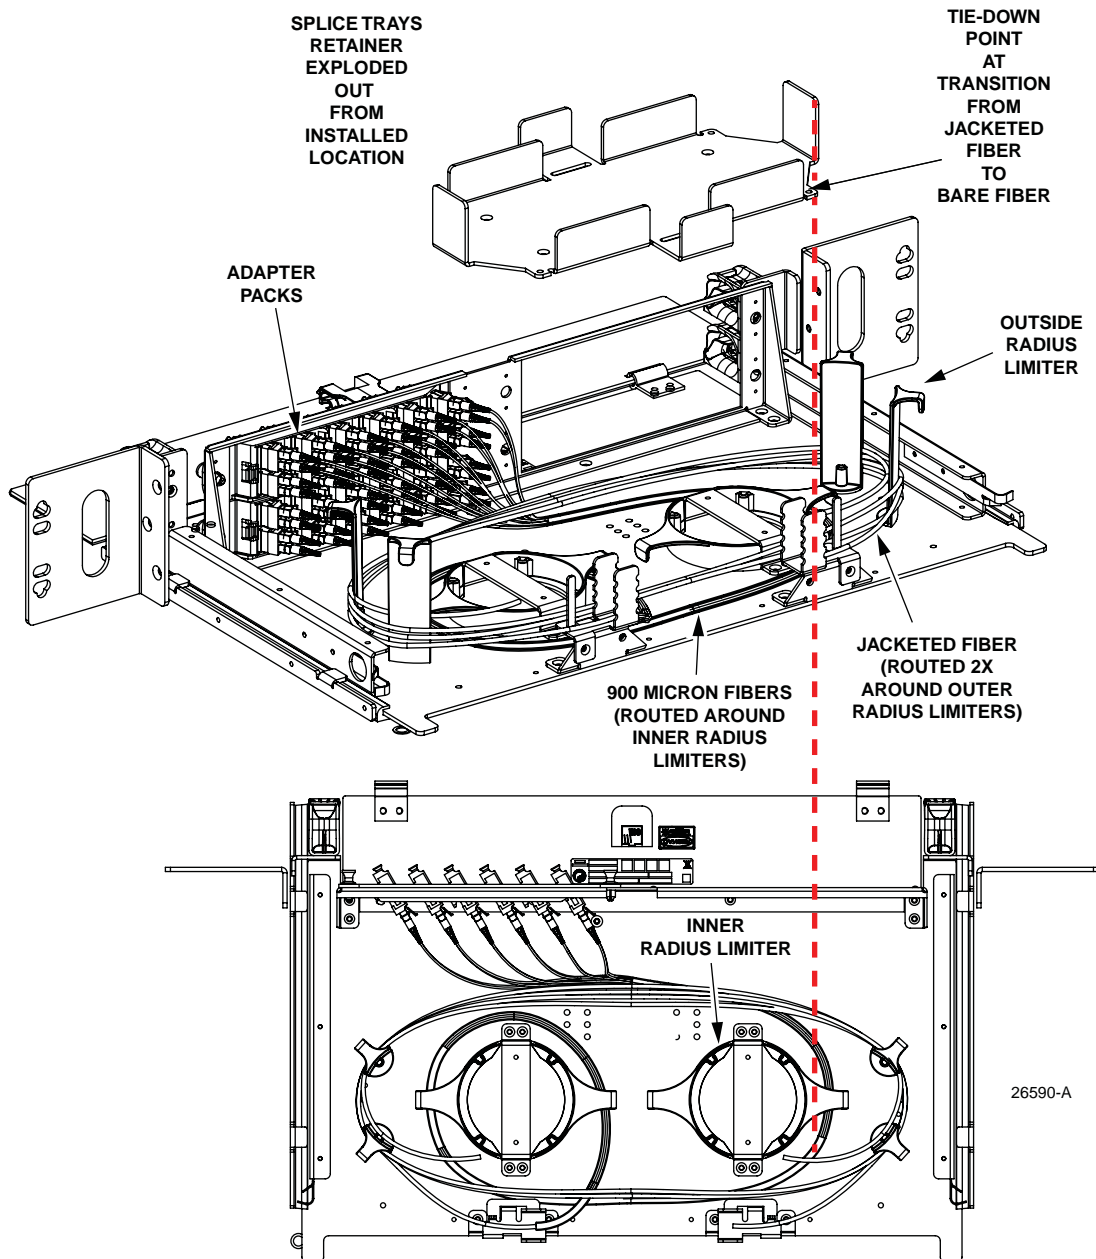

Figure 24. Stranded Pigtail Routing, Routing from Left Side (When Viewed from Rear)
- f. Continue routing the left-side pigtails in a mirror image of how the right-side pigtails were routed. Refer to Figure 24.